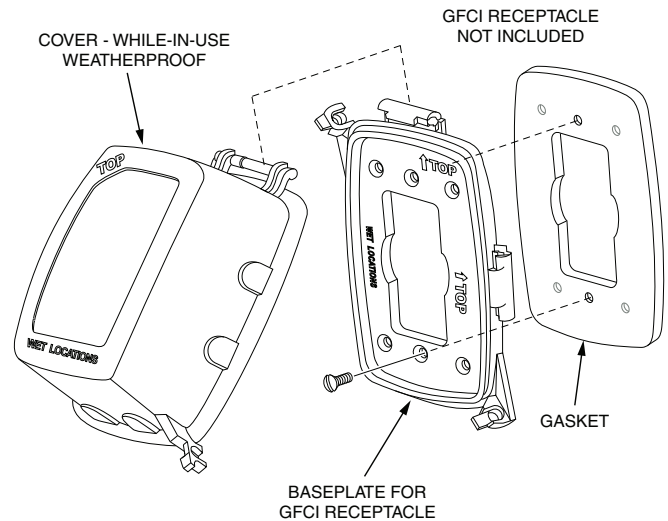

Fig. 27 — Weatherproof Cover Installation
4. Mount the weatherproof cover to the backing plate as shown in Fig. 27.